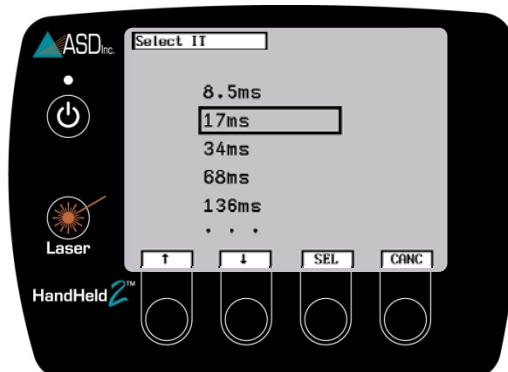

Figure 2-20: Choose an Integration Time
- Step 2 Press the arrow buttons to move the selection box to the desired integration time (Figure 2-20).